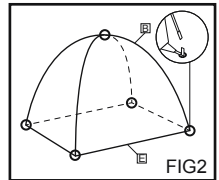

FIG2
3. Stand the inner tent <E> up and push the ends of the poles into the iron bars (which are on each corner of the inner tent <E>). (FIG2)
4. Fasten the roof of the inner tent <E> onto the pole junction with the sewn-on tie. (FIG2)